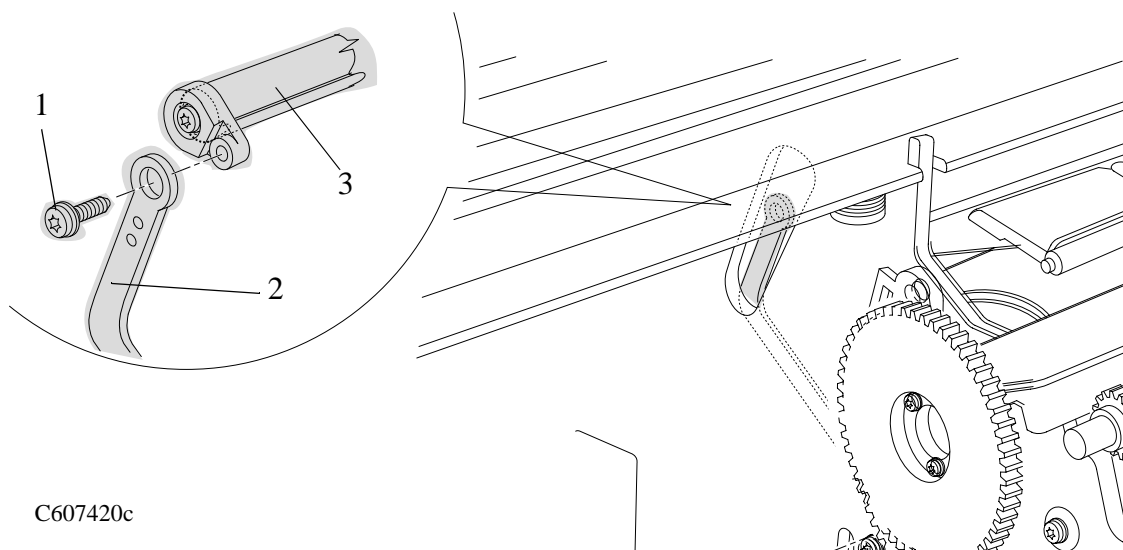

Figure 77: Linkage Rod
3. Remove the T-10 screw (item 1) from the linkage rod (item 2) and the pinch-wheel cam (item 3) (refer to Figure 77).